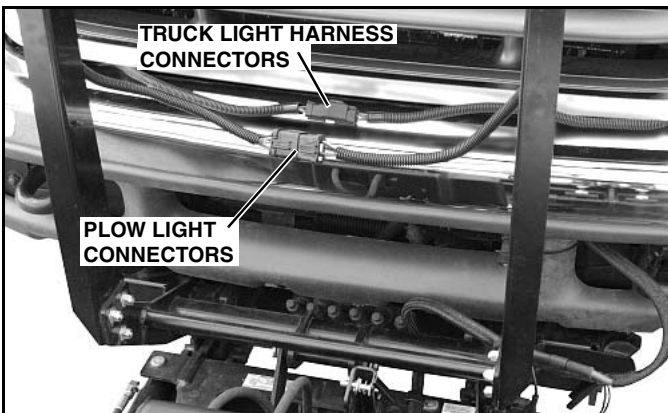

Figure 1-20
3. To prevent corrosion on the contacts, plug the male and female connectors on the plow together (See Figure 1-20).
4. To make the truck lights operable, plug the male and female connectors on the truck light harness together (See Figure 1-20).